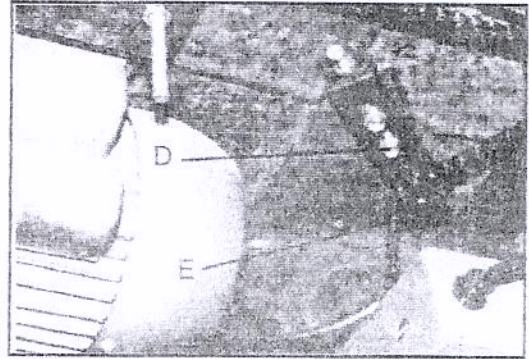
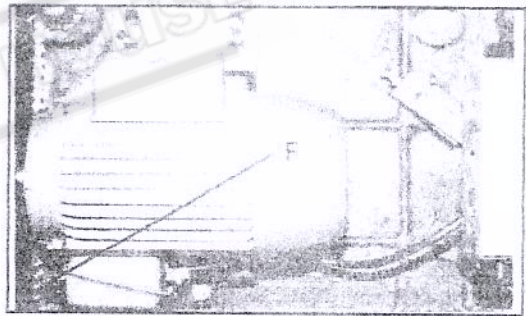

Fig. 24
Fig. 25
5. If head casting is not parallel to table, tilt planer on its side as shown in Fig.24. Loosen bolt(D) Fig.24, will allow you to move the idler sprocket assembly(E)far enough to release tension on chain as shown in Fig.25. Remove chain from sprocket on end of head casting that must be adjusted. In this case chain has been removed from sprocket.
6. Turn sprocket(F) Fig. 25, by hand to bring that corner into adjustment with other three corners. IMPORTANT: THIS ADJUSTMENT IS VERY SENSITIVE AND IT SHOULD NOT BE NECESSARY TO TURN THE SPROCKET MORE THAN ONE OR TWO TEETH. Turning sprocket(F) clockwise will decrease the distance between the table and headcasting. Counter-clockwise will increase the distance.